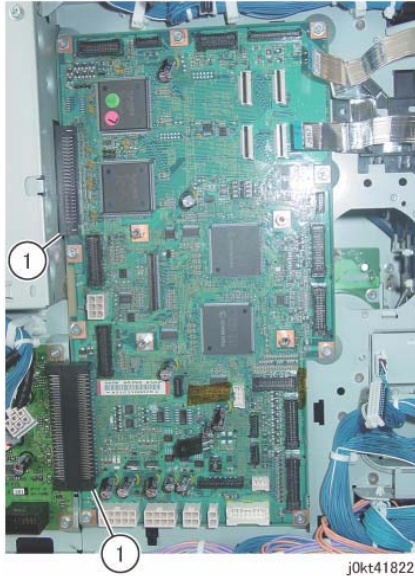

Figure 5 Remove the Motor Driver Main PWB
12. Remove the Motor Driver Main PWB. (Figure 5)